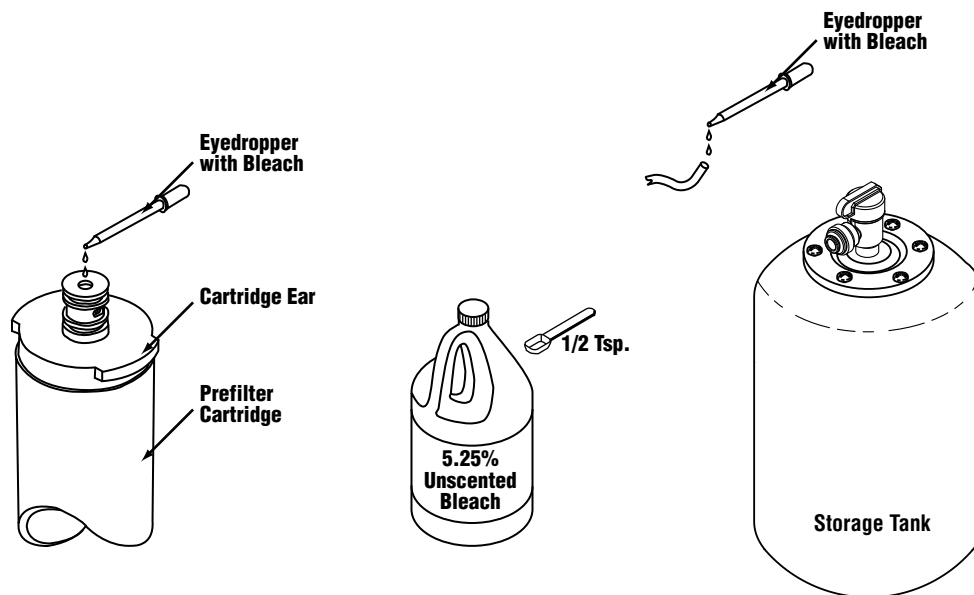

Fig. 9
- 3) Insert into the yellow tubing 1/2 teaspoon (3 ml) of household bleach. (See Fig 9)